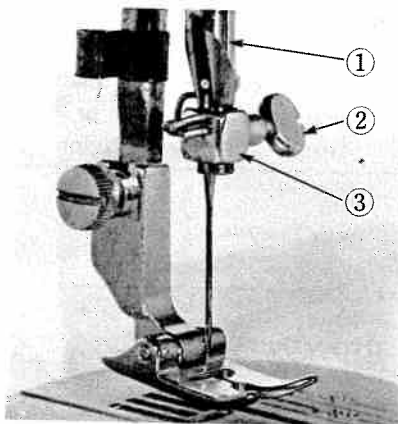

Fig. 2
See Fig.2. Raise the needle bar ① to its highest point, turning hand wheel toward you by hand. Then loosen the needle clamp screw ② and the needle can be inserted into clamp ③.